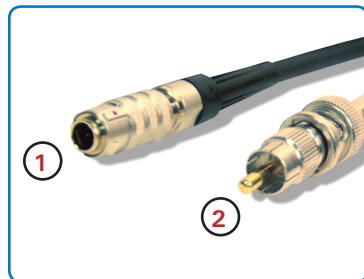

Figure 10
- AWMV is packaged with one cable: DC Power, #1 in Figure 10, and
- BNC cable #2 Figure 10, is provided by end-user.